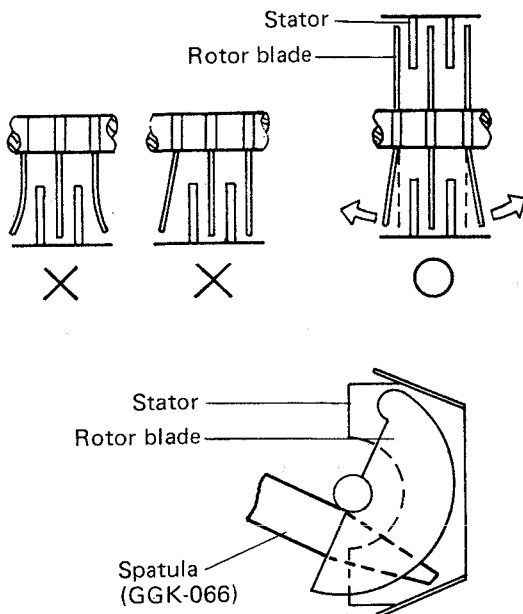

Fig. 8-1 Adjustment of tuning capacitor
- The tuning coils in the FM front end do not have an adjusting core. Consequently, tracking adjustments at 90MHz are performed by regulating the gap between rotor and stator of the tuning capacitors (VC1, VC3 and VC5). The expression "adjust VC (VC1, VC3, VC5) found in the text means that the two outer rotor blades of each of these tuning capacitors are to be extended outwards with spatula (Part No. GGK-066) as shown in Fig. 8-1.